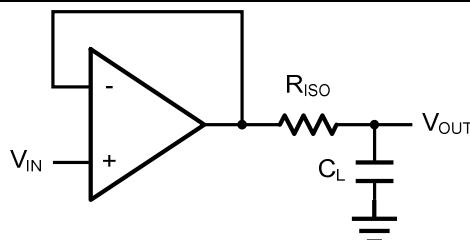
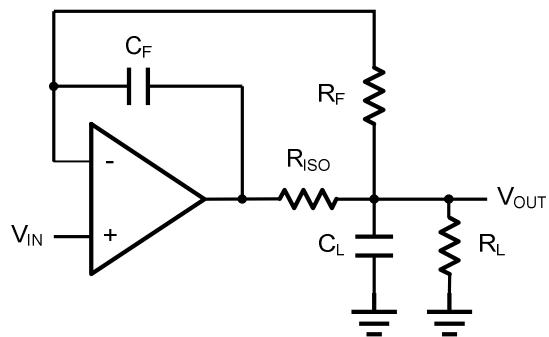

Figure 2. Indirectly Driving a Capacitive Load Using Isolation Resistor
Figure 3. Indirectly Driving a Capacitive Load with DC Accuracy
The HM809X family is optimized for bandwidth and speed, not for driving capacitive loads. Output capacitance will create a pole in the amplifier's feedback path, leading to excessive peaking and potential oscillation. If dealing with load capacitance is a requirement of the application, the two strategies to consider are (1) using a small resistor in series with the amplifier's output and the load capacitance and (2) reducing the bandwidth of the amplifier's feedback loop by increasing the overall noise gain. Figure 2. shows a unity gain follower using the series resistor strategy. The resistor isolates the output from the capacitance and, more importantly, creates a zero in the feedback path that compensates for the pole created by the output capacitance.
The circuit in Figure 3 is an improvement to the one in Figure 2.  $R_F$  provides the DC accuracy by feed-forward the  $V_{IN}$  to  $R_L$ .  $C_F$  and  $R_{ISO}$  serve to counteract the loss of phase margin by feeding the high frequency component of the output signal back to the amplifier's inverting input, thereby preserving the phase margin in the overall feedback loop. Capacitive drive can be increased by increasing the value of  $C_F$ . This in turn will slow down the pulse response.